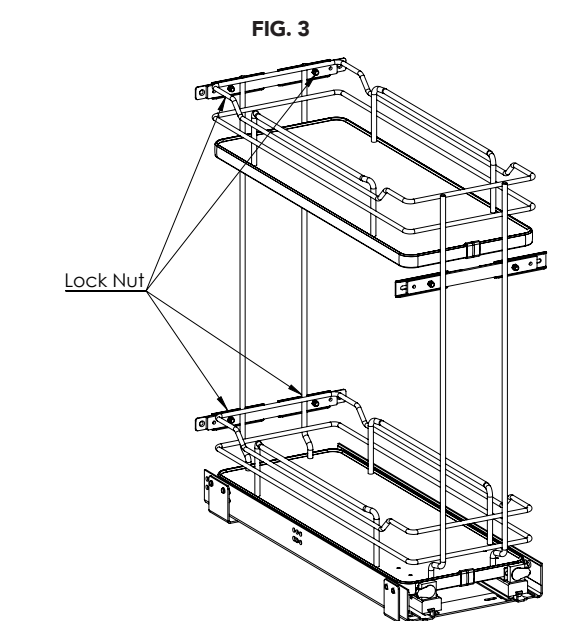

FIG. 3
- 1) With an 8 mm wrench, loosen the (4) lock nuts located inside the front wall of the unit (Fig. 3).
- 3) Using (4) #6x1/2" flat head screws, attach the door to the pullout unit.